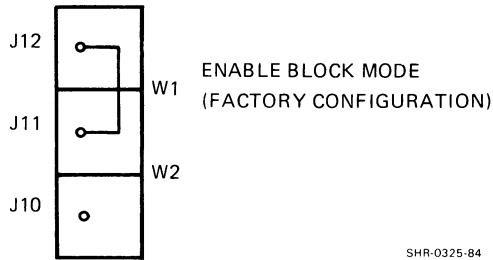

Figure 2-5 Enable/Disable Block Mode
2.2.4 Enable/Disable Block Mode Jumper (Figure 2-5)